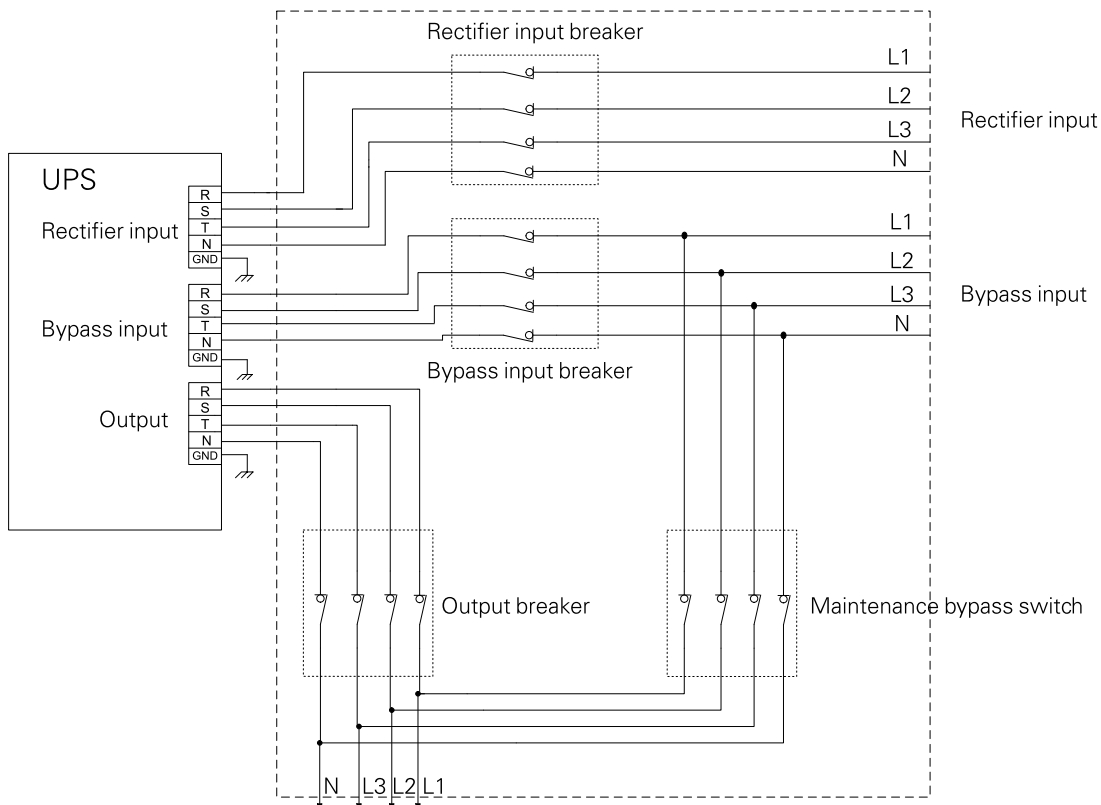

Figure 6-8: External Maintenance Bypass installation diagram
5. Open the Bypass input breaker, Rectifier input breaker and Output breaker separately (see *Figure 6-8: External Maintenance Bypass installation diagram* on page 54).
1. Close the Maintenance Bypass Input breaker and Bypass input breaker (see *Figure 6-8: External Maintenance Bypass installation diagram* on page 54).